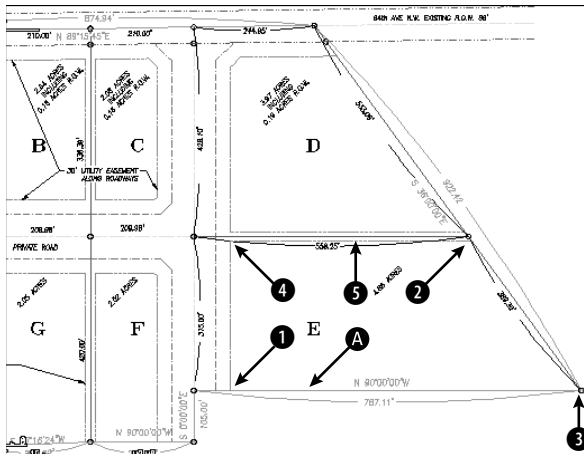

**Figure 12-17:** Parcels D and E in the civil engineering drawing.
3. If you did not do the previous exercise, use ZOOM Window to zoom in on the parcels labeled D and E, as shown in Figure 12-17.